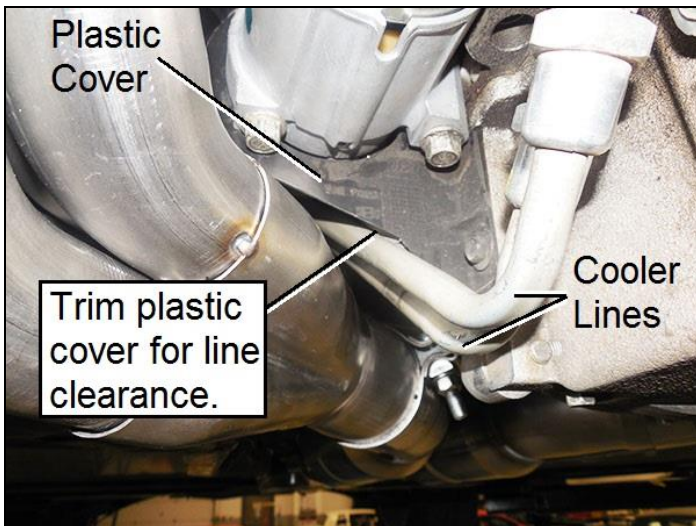

Figure 1
5. Remove the plastic cover and trim using a utility knife to allow the cooler lines to hug the bell housing and oil pan (**Figure 1**).